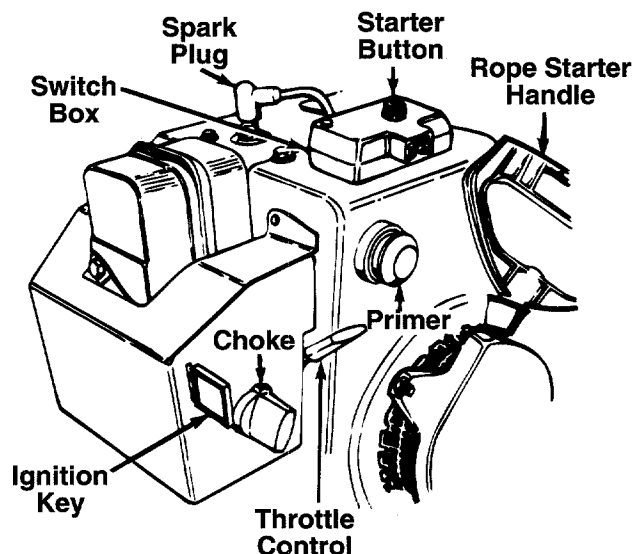

FIGURE 14.
THROTTLE CONTROL (See figure 14)
SAFETY IGNITION SWITCH (See figure 14)
- Remove the ignition key from the carburetor cover on the engine (do not turn). See figure 14.